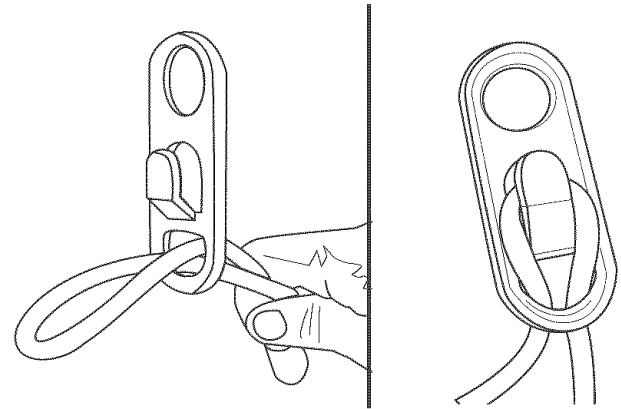

Fig. 2
2. Push the loop through the bottom hole in the retainer (Fig. 2).
3. Slide the loop over the retaining clip and pull down until the cord fits snugly (Fig. 2).